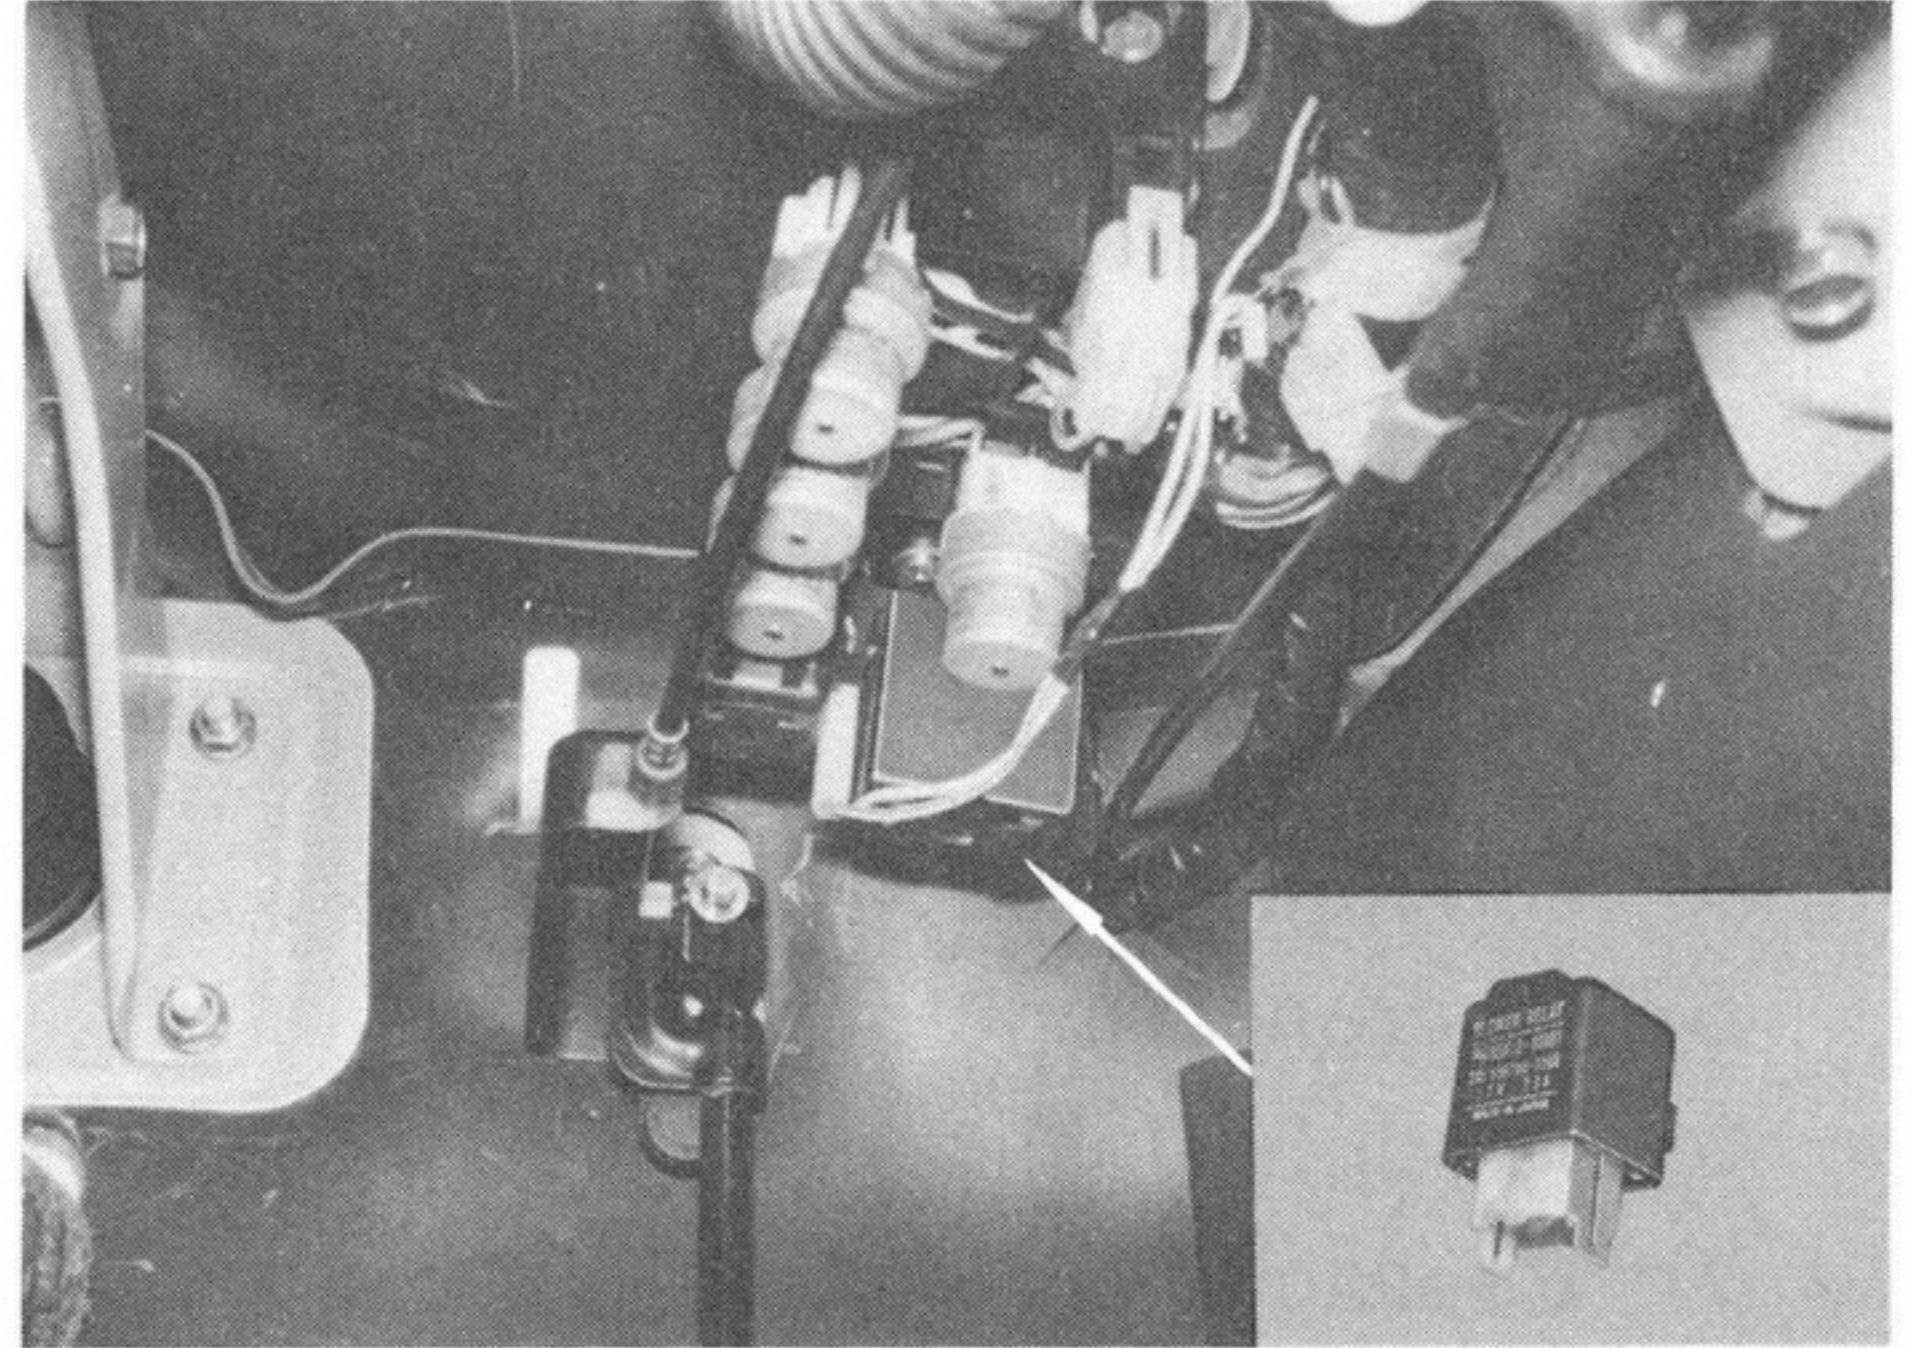

Fig. 13
- A) Install the A/C relay at the position in Fig. 13.